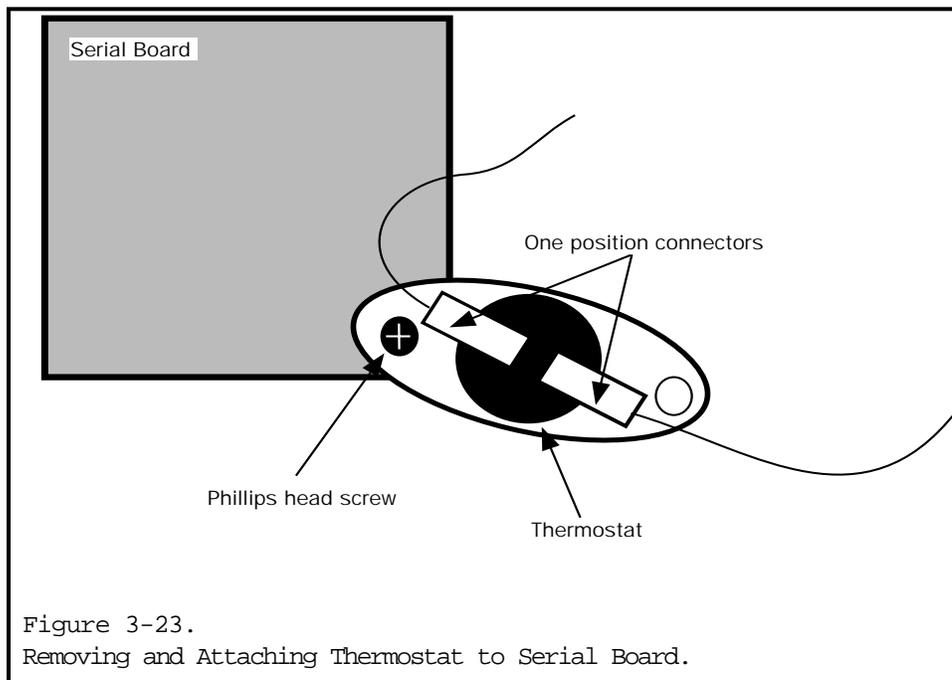

Figure 3-23.
3. Remove the screw that holds the defective thermostat to the serial board (see figure 3-23.) Save the screw—it will be used again.